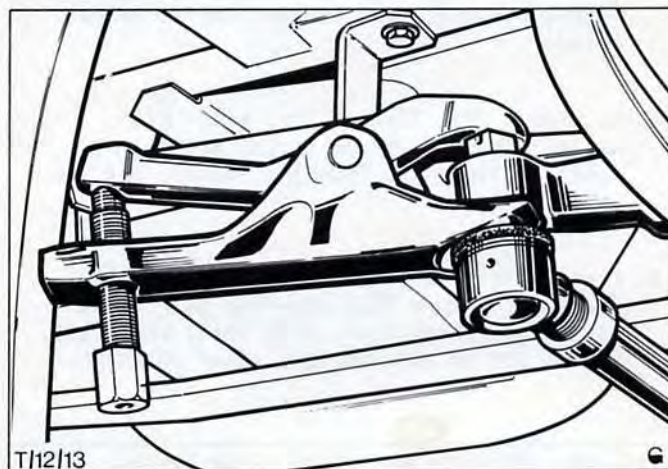

Fig.40. Remove track rod end from steering arm using service tool 13-006.
2. Remove track rod end split pin, slacken castellated nut. Using service tool 13 006 disconnect track rod end from steering arm Fig.40.